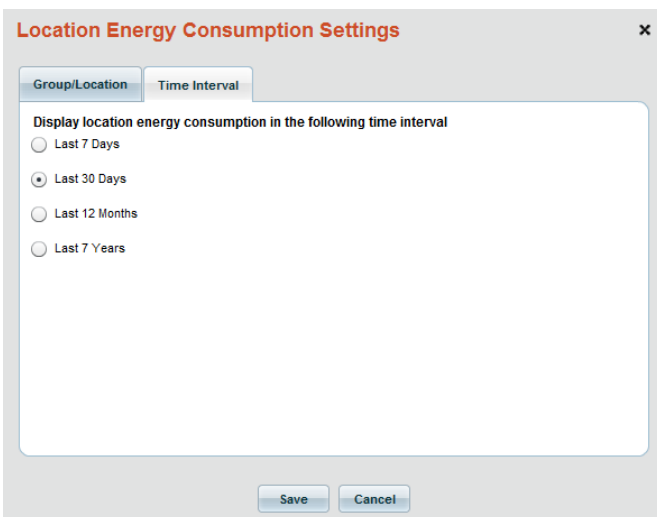

FIG. 128 Location Energy Consumption Settings dialog - Time Interval tab
- In the **Time Interval** tab (FIG. 128), the default setting is **Last 30 Days**. This setting displays location energy usage data for the past 30-day period only. The other options on this tab are *Last 7 Days*, *Last 12 Months*, and *Last 7 Years*.